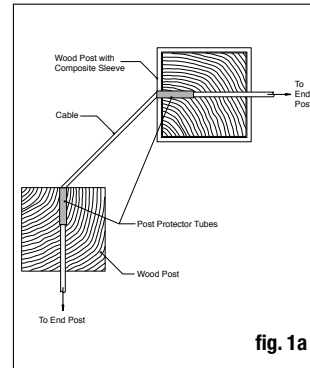
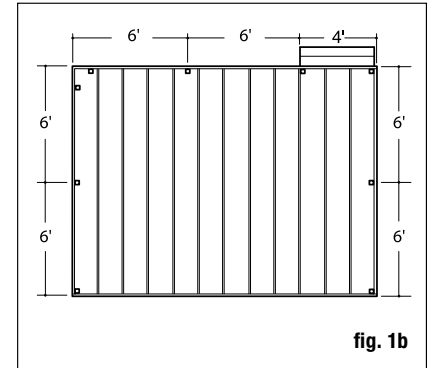

fig. 1a
fig. 1b
Step 1: Determine the number of railing posts needed for your deck. Post spacing is 6' or 8' on-center. **Corner applications** (fig. 1a): When taking cable railing through a corner, do not bend the cable past 45° at any time. When turning 90°, a 2-step turn using a double corner post configuration is required. Example: A 12'x16' deck attached to a building with a 4' access opening on one side, and one 90° corner, will require a total of nine posts (fig. 1b). Or you can stop your run and start a new one.